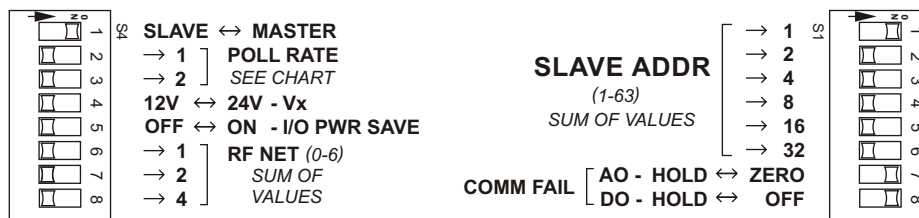

Figure 1 (Master Unit Settings)
**Step 1: Set one unit as the Master.** Note that both units come with the same default settings. Select one unit to be the Master and move the upper left DIP switch to the "Master" position. See Figure 1 & 2 below for proper settings.